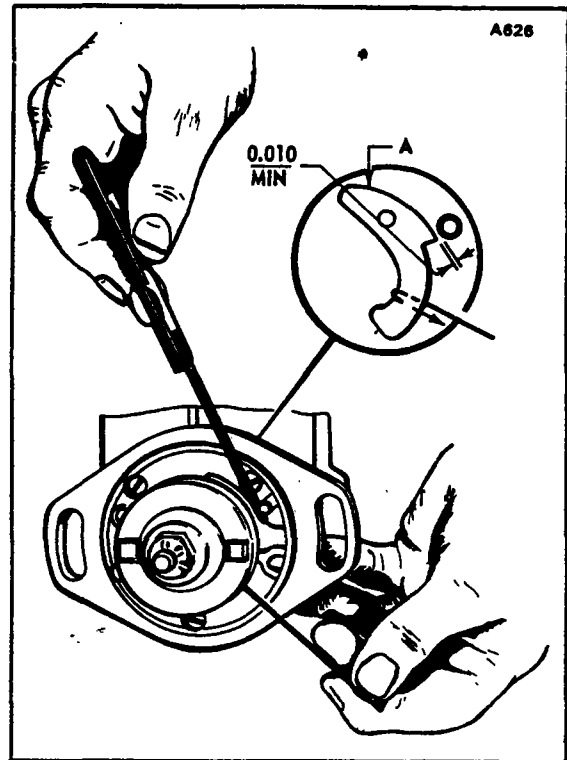

Figure 8A-14. Checking Flyweight Clearance of Impulse Coupling
a. Remove the spark plug from No. 1 cylinder and place a thumb over the spark plug hole. Rotate the crankshaft in direction of normal rotation until the compression stroke is reached, this is indicated by a positive pressure inside the cylinder tending to push the thumb off the spark plug hole. Continue rotating the crankshaft in direction of normal rotation until the advance timing mark (20) on the front face of the starter ring gear is in exact alignment with the small hole located at the two o'clock position on the front face of the starter housing. (Refer to Figure 8A-15.)